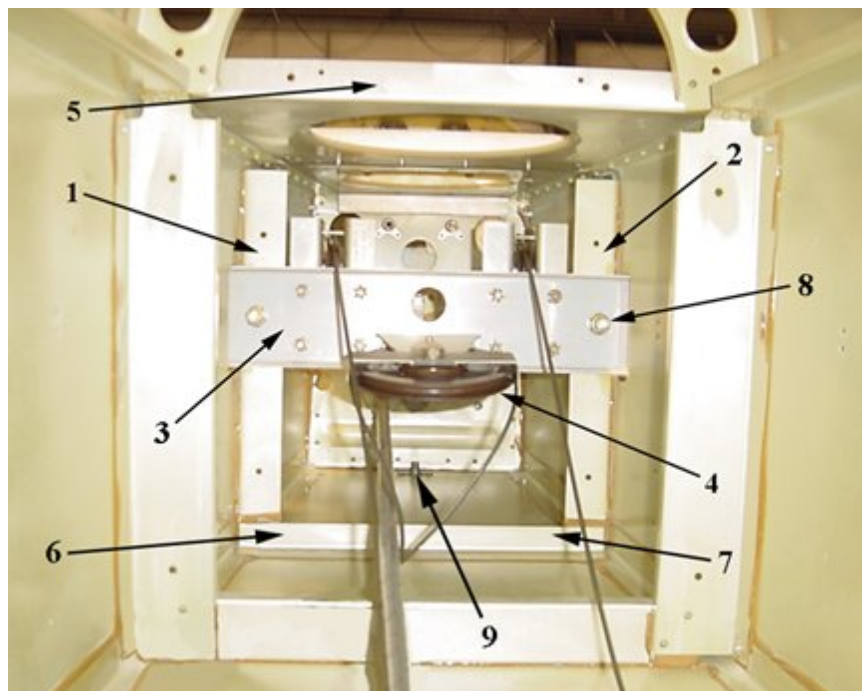

Figure 3
- (1) Remove the aft fuselage inspection covers below the vertical fin. (Refer to Chapter 53)
- (2) Remove the flashing beacon power supply. (Refer to Chapter 33)
- (3) Through the large lightening hole in horizontal bulkhead (5) use a suitable light and mirror to perform the following inspections: (Refer to Figure 3)
- (a) Inspect spar support angles (1 and 2) for delamination, cracks and buckling above and below stabilizer spar (3). Also inspect the upper flanges of the angles for cracks in or near the bend radii.
- (b) Inspect the angles for cracks or buckling around stabilizer attach bolts (8).
- (4) If any damage is found, remove stabilizer spar (3) and repair or replace damaged angles (1 and 2) and stiffener (6/7) and any other damage in accordance with Chapter 20 of this manual, Service Kit 125A and /or AC43-13.
- (5) Reinstall the flashing beacon power supply. (Refer to Chapter 33)
- (6) Reinstall the aft fuselage inspection covers below the vertical fin. (Refer to Chapter 53)